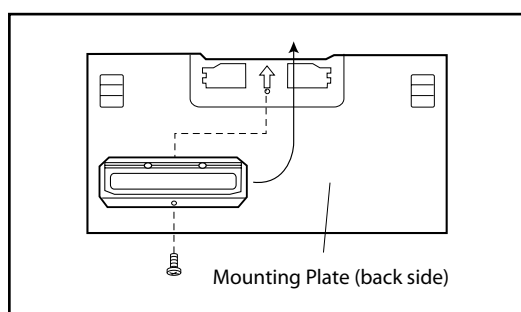

Figure 11
1. The Exhaust Damper Assembly (Figure 11) is not required for recirculating operation.
6. Attach the Exhaust Damper Assembly to the back of the mounting plate by sliding it into the slits in the same direction as the arrow. See Figure 11. Using tapping screw 4 x 12 mm from the INSTALLATION HARDWARE, tighten into place.